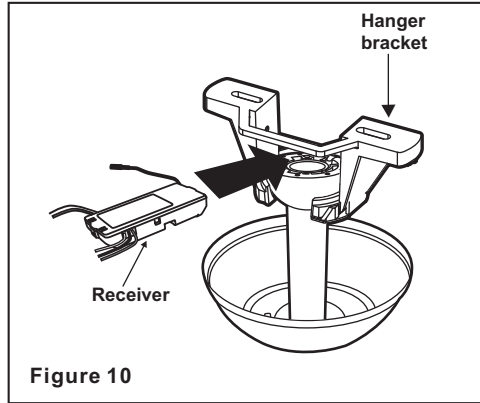

Figure 10
- (Figure 10) Insert the receiver into the mounting bracket with the flat side of the receiver facing the ceiling.